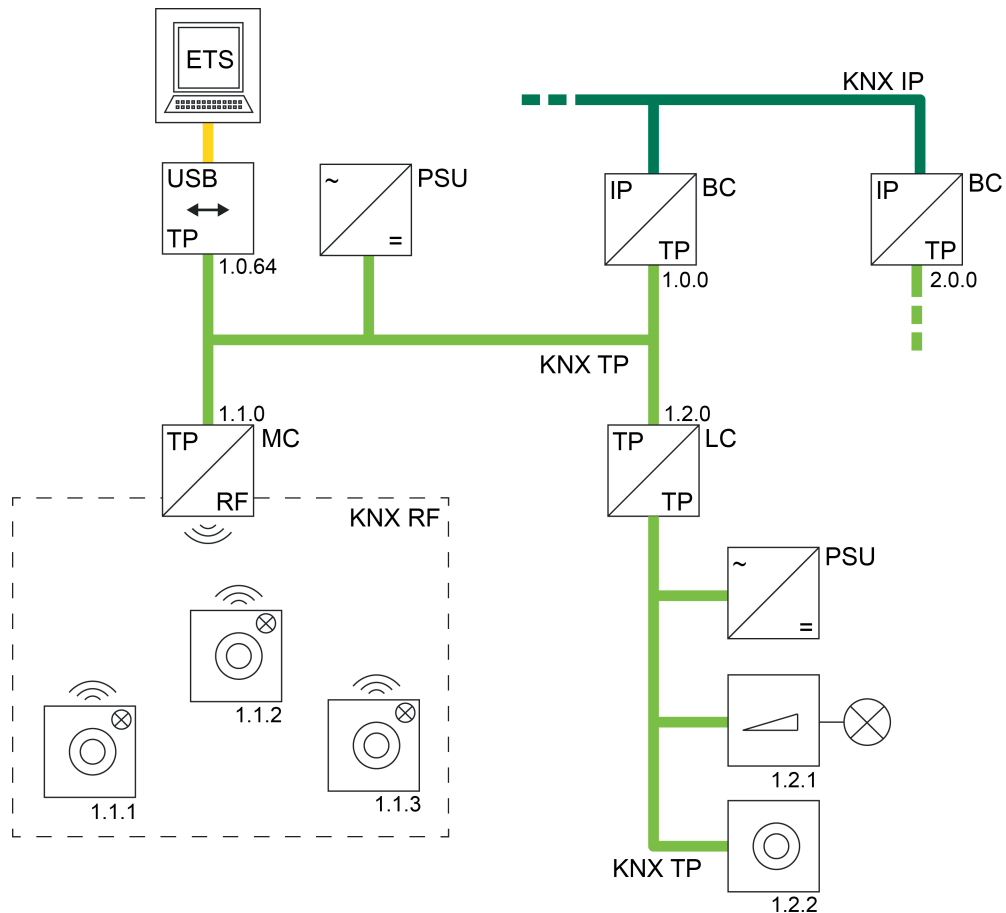

Figure 24: Example of a possible KNX topology with a KNX TP USB data interface
- Use of a KNX TP USB data interface (Figure 24):